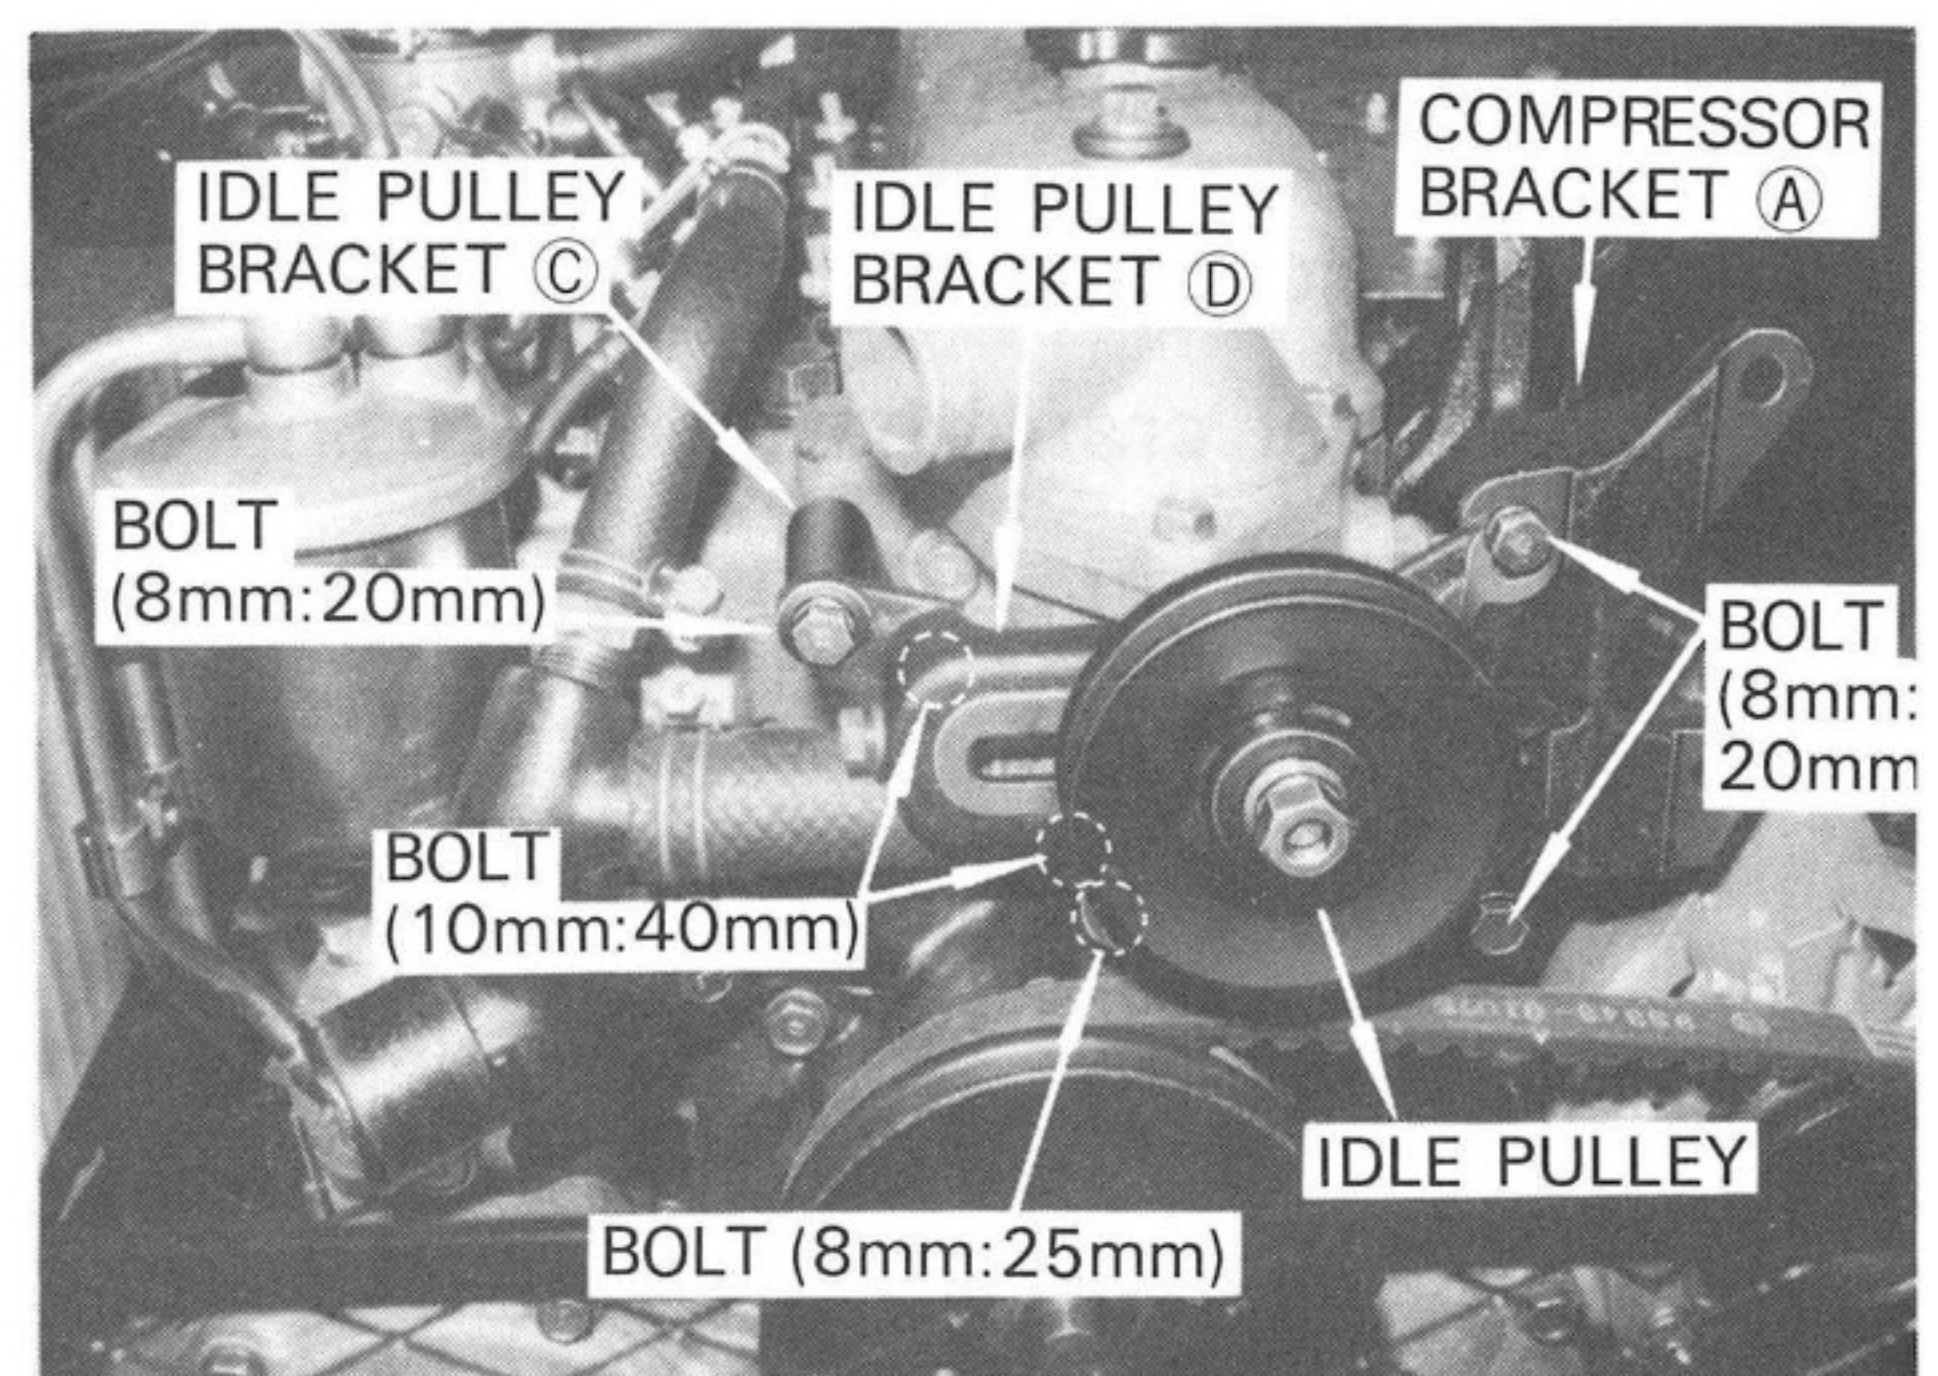

Fig. 2-6
- B) Assemble idle pulley on the idle pulley bracket ④.
- C) Secure idle pulley bracket ④ to the idle pulley bracket ③ using two bolts (8mm : 20mm and 8mm : 25mm), and to the compressor bracket ① with two bolts (8mm : 20mm). See Fig. 2-6.